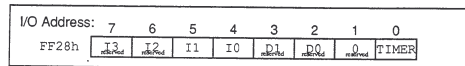

Figure 14. Interrupt mask register format.
The 80186 has an Interrupt Mask Register (IMR) that is similar to the Intel 8259 mask register. Use this register to individually mask a hardware interrupt request. Write a one (1) to one of the data bits to set the mask for one of the interrupt channels (0 through 7). Write a zero (0) to reset that interrupt channel. As Figure 14 shows, several of the interrupt channels are reserved.